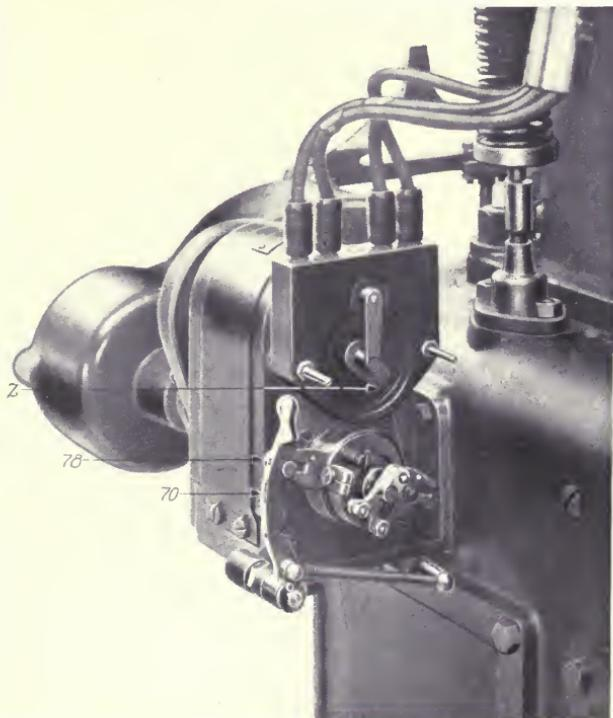

Fig. 2.—Exposed view of distributor and "make and break"—G. E. magneto.
winding of the step-up transformer in series. The armature of the magneto supplies the transformer with low-tension alternating current. Short circuiting the armature, that is, in shunt with it, is the mechanically actuated "make and break" mechanism (see fig. 2). At "make" the armature is short circuited. At the instant the short-circuited current reaches its maximum value, the "break" occurs and the potential induced by the opening of the short circuit now discharges itself through the unbroken circuit of the transformer. This potential, which is higher than that which would normally be generated in magneto armature without the
"make and break" feature, induces a still higher potential in the primary of the transformer. This latter potential is sufficient to bridge the gap at the spark plugs of the cylinders—the discharge current passing through the high-tension distributor (distributer finger shown at Z, fig. 2), which directs the current to the proper cylinder in rotation. In the Eisemann magneto, the high-tension circuit is closed at the distributer, while in the G. E. magneto no actual contact is made. In the latter case the potential is high enough to bridge the small gap at the end of the distributer finger as well as that at the spark plug.
**17e. Timing of spark.**—The advance and retardation of the spark are obtained by movement of part commonly called the "timing lever" (part 78, fig. 2. *In G. E. magneto called "interrupter base," part 440, fig. 50; Eisemann, "bascual," part 906, fig. 49; Splitdorf, "breaker box," part 1021, fig. 47*). The adjusting lever (part 70 or 959, fig. 52) has two notches in it, one for starting (or retardation), marked "S," and the other the running position (or advance), marked "R."